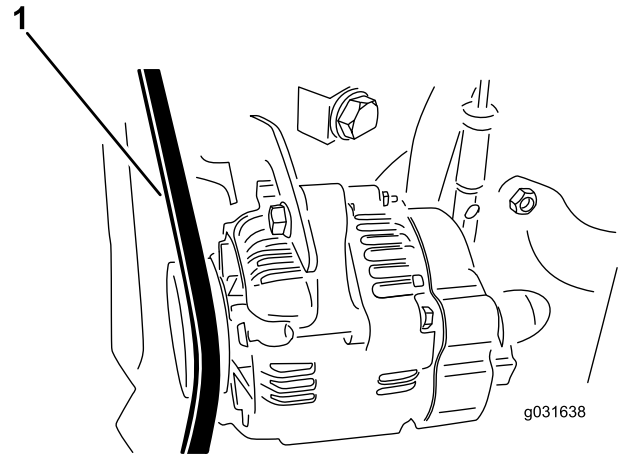

Figure 73
4. Apply 30 N (22 in-lb) of force to the alternator belt, midway between the pulleys (Figure 73).